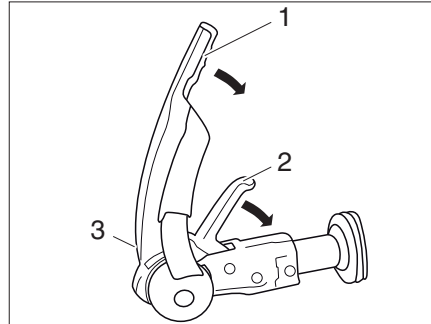

Fig. 1 AKS 3004 stabiliser
- Pull the stabilising lever (Fig. 1,1) upwards as far as it will go.
- Pull the coupling handle (Fig. 1,2) upwards.
- Conduct a visual inspection: The green cylinder of the safety indicator (Fig. 1,3) has to be visible.
- Activate the stabilising mechanism. To do so, push the stabilising lever (Fig. 1,1) downwards as far as it will go.